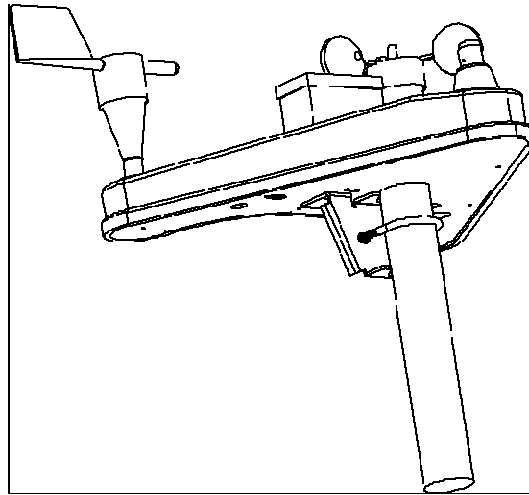

FIGURE 11 *Installation at Pole*
2. Place your weather station assembly on top of the mast/pole with the base firmly seated on the top edge of the mast/pole of (see Figure 11)